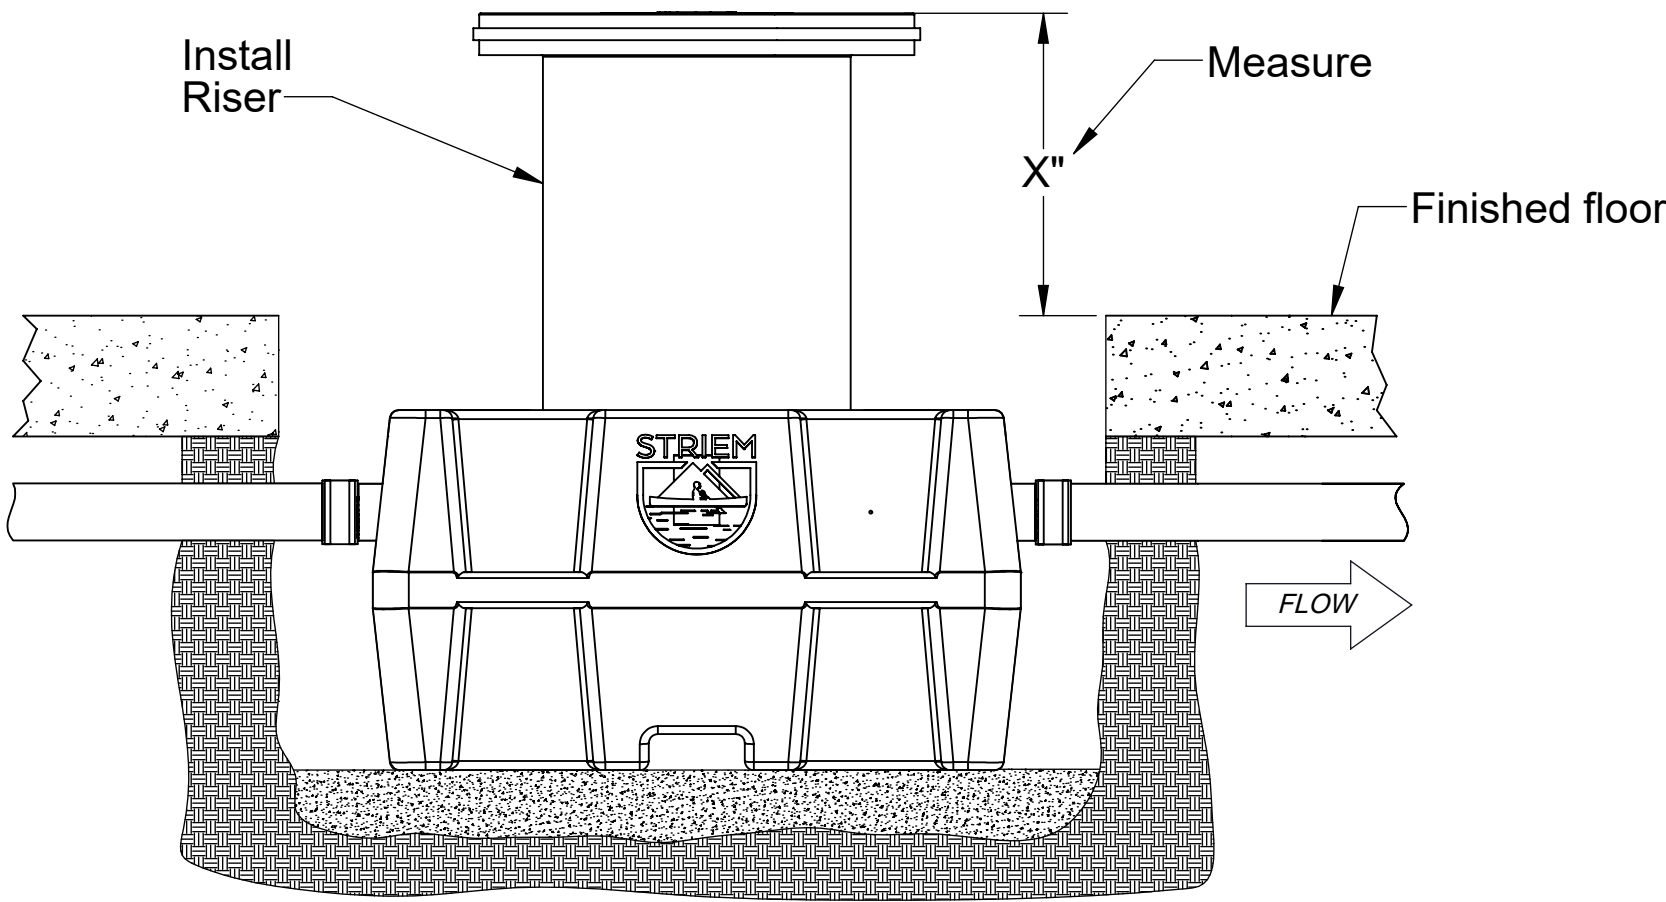

Figure 2
- From the top of the adapter, measure your needed total riser height downward to the sidewall of the riser. Then, add 5" (for LB-35 or LB-50) or 6" ( for LB-125, or LB-275). For example, if you have a LB-275 and need a 15-1/2" extension, you would measure down from the top of the adapter 21-1/2" (15-1/2" + 6" = 21-1/2"). See Figure 2.
- Push the riser into the ring until it stops (about 1 inch). See Figure 2.
- Measure the distance from the top edge of the riser down to the finished floor. Make sure to account for any future tile work in your measurment. See Figure 2.